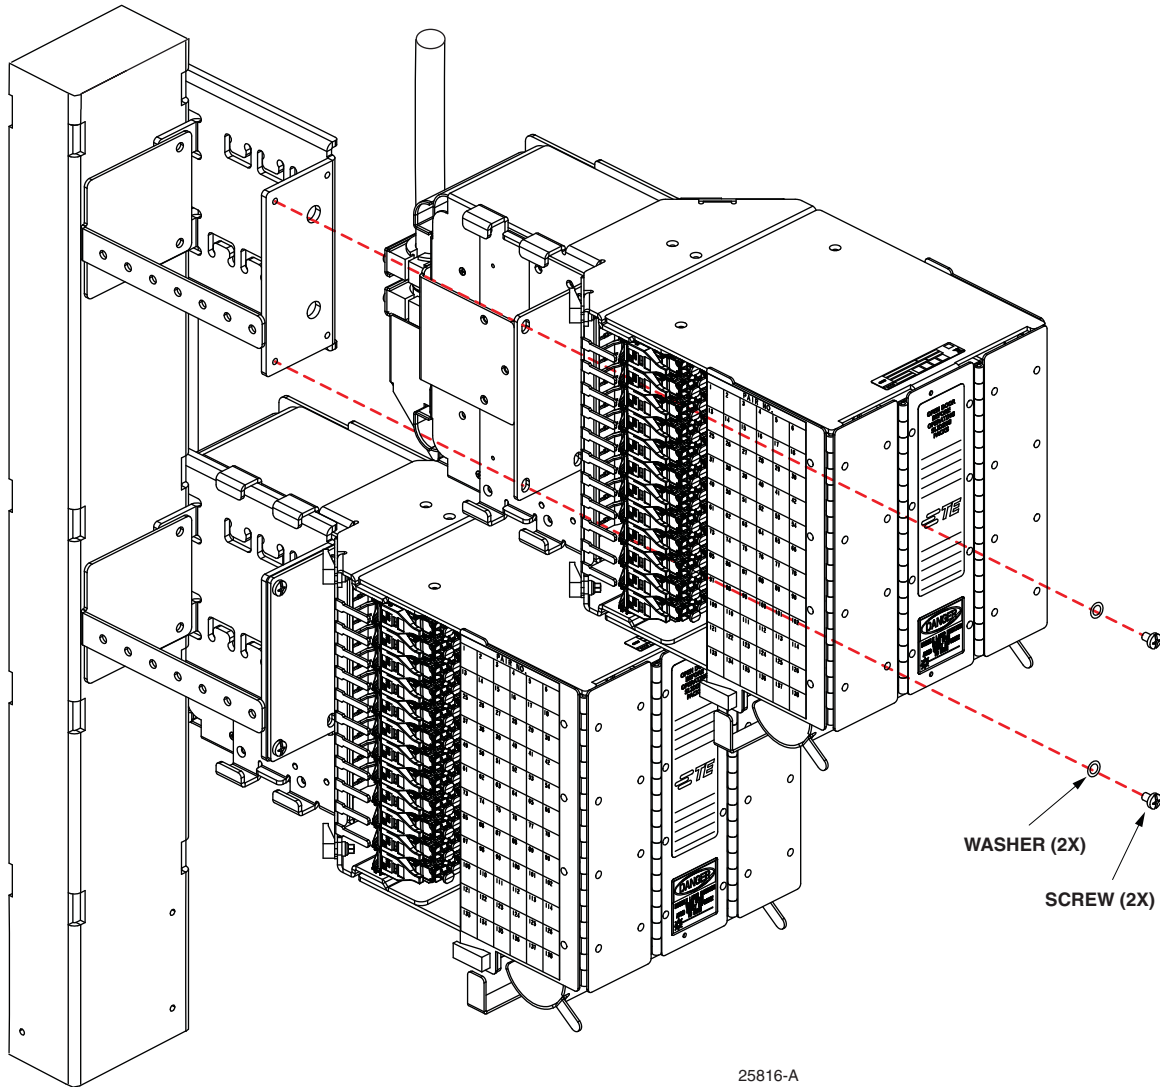

Figure 6. FTB Installation on Rack
5. Slide the FTB onto the appropriate mounting bracket at the front of the rack (Figure 6).